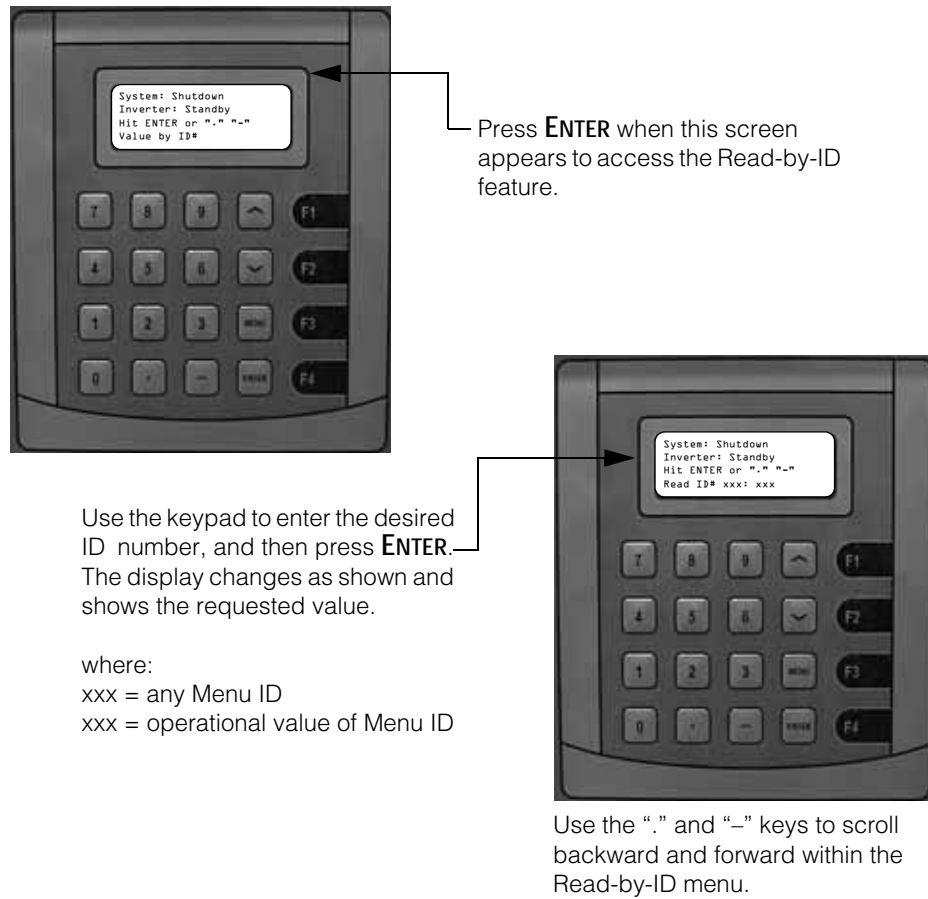

Figure 2-7 Read-by-ID Feature
1. From the standard display, press the **V** key to scroll downward through the menu to the Read-by-ID menu item. Stop when the third and fourth line of the display change as shown in Figure 2-7.